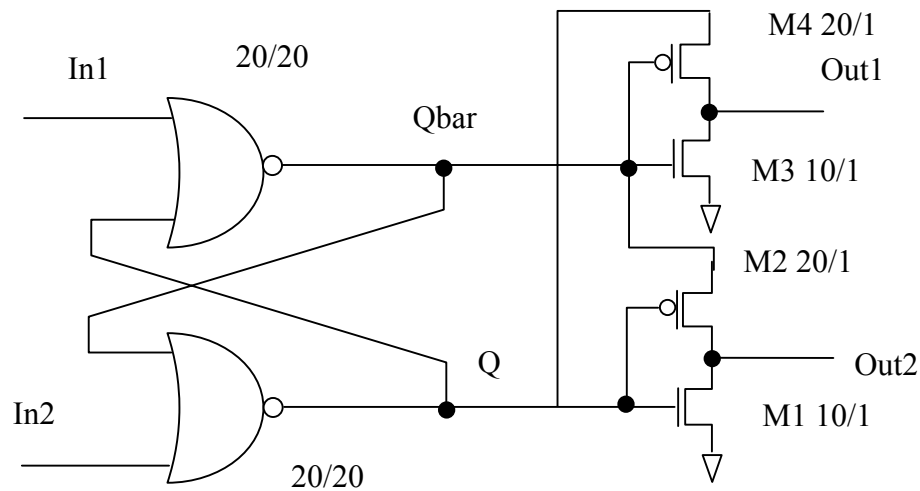

Figure 13.15 An arbiter made using NAND gates.
13.6 Simulate the operation of the Arbiter seen in Fig. 13.15. Show how two inputs arriving at the same time results in only one output going high.